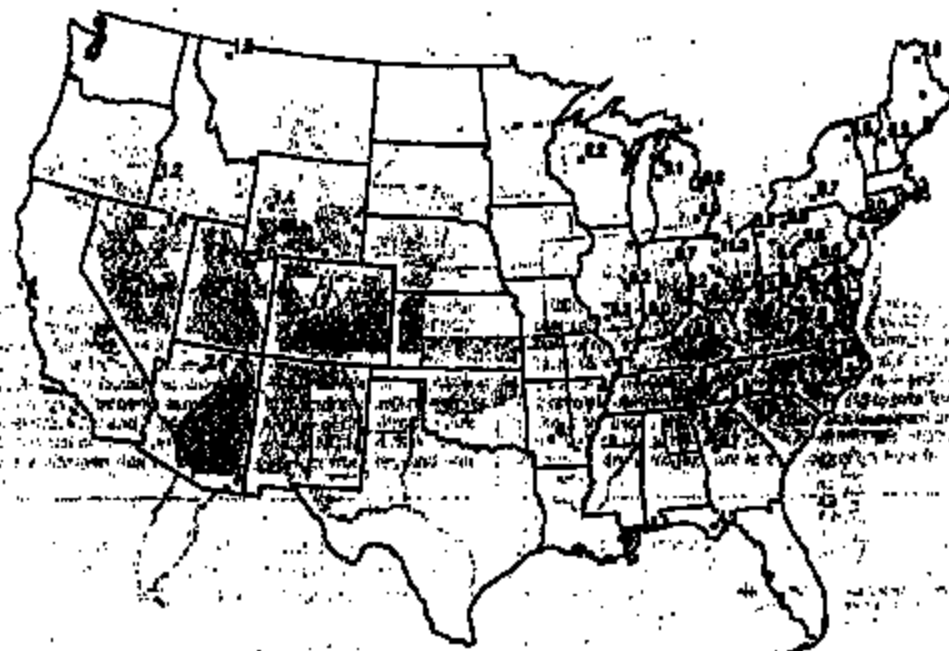

FIGURE 12. Mean annual total nitrogen deposition (dry + wet) for 1990-1993 (kg/ha).
**Total Nitrogen Deposition.** The mean annual total nitrogen deposition, dry ( $\text{HNO}_3$  and  $\text{NO}_3^-$  and  $\text{NH}_4^+$  particles) plus wet ( $\text{NO}_3^-$  and  $\text{NH}_4^+$  in precipitation), for the period 1990 through 1993 is shown in Figure 12. In the eastern United States, the CASTNet site with the highest total nitrogen deposition was Lykens, OH, at 11.3 kg/ha. Sites located in the area from Illinois through southern New York (including Michigan) all had values above 8 kg/ha. The CASTNet site at Ashland, ME, had the lowest level in the eastern United States at 3.6 kg/ha. Mean annual total nitrogen deposition in the western United States was significantly lower than deposition estimates for the eastern states.